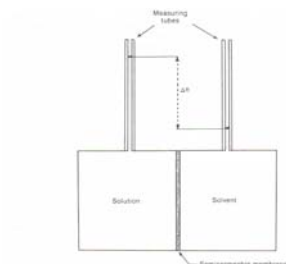

FIGURE 2.2. Schematic representation of a membrane osmometer.
1) **Figures 2.2, 2.3, & 2.4 in Stevens**